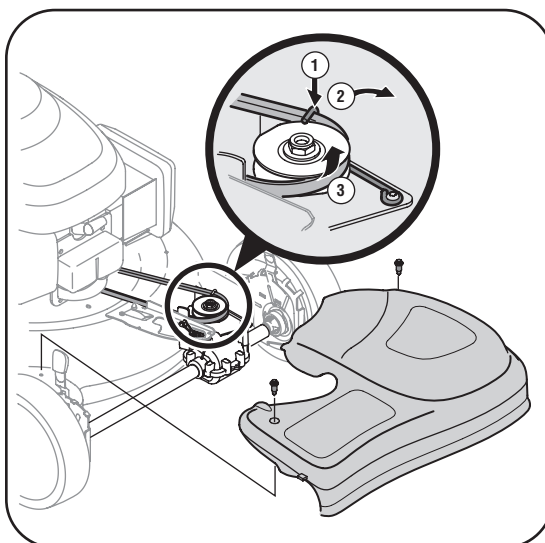

Figure 13
1. Remove two shoulder screws securing front drive cover to mower deck. See Figure 13. Press inward on sides of front drive cover and release tabs that secure it to the height adjuster brackets. Remove drive cover from mower.